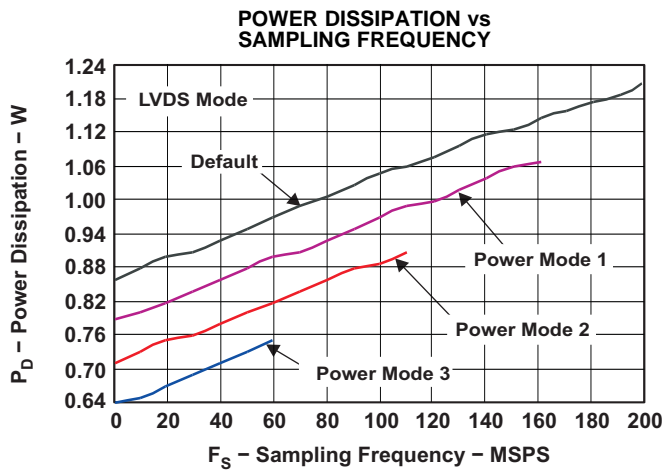

Figure 29.
ADS5517 has a power scaling mode in which the device can be operated at reduced power levels at lower sampling frequencies with no difference in performance. (See Figure 29)(1) There are four power scaling modes for different sampling clock frequency ranges, using the serial interface register bits **<SCALING>** (Table 16). Only the AVDD power is scaled, leaving the DRVDD power unchanged.